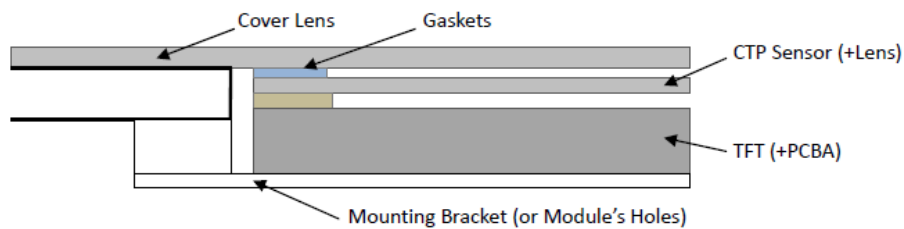

Figure 3
8.3 Additional Cover Lens Mounting (Figure 3)
8.3 覆加盖板（附图 3）